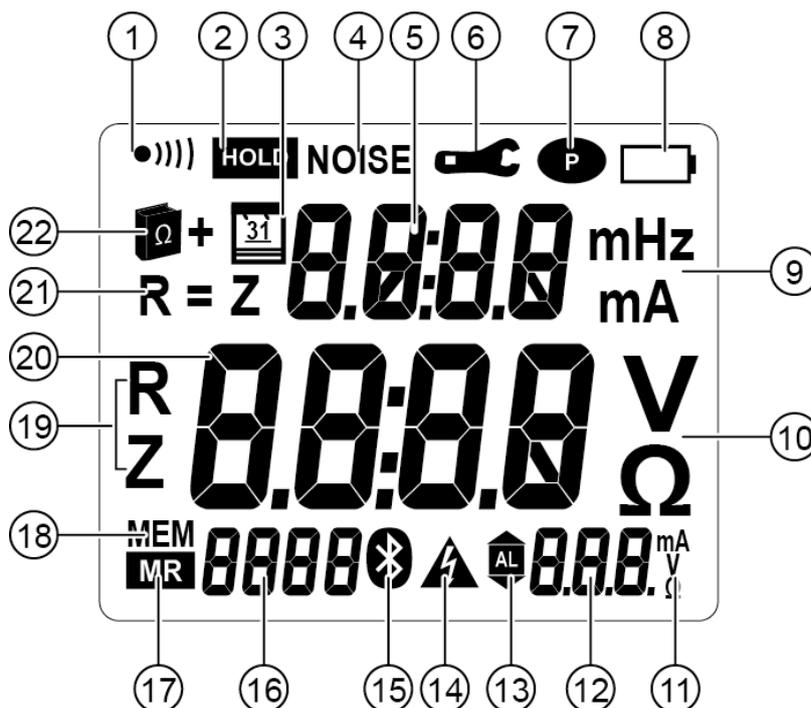

Fig. 6
The audible signal can be activated or deactivated in *SET-UP* (see chapter 8, menu 2). The  icon (Fig. 6, item 1) behaves as follows: